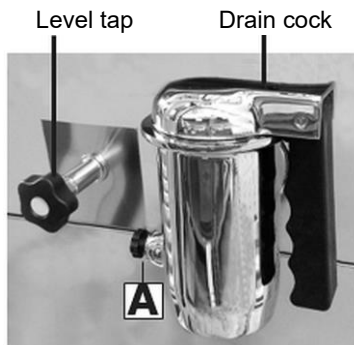
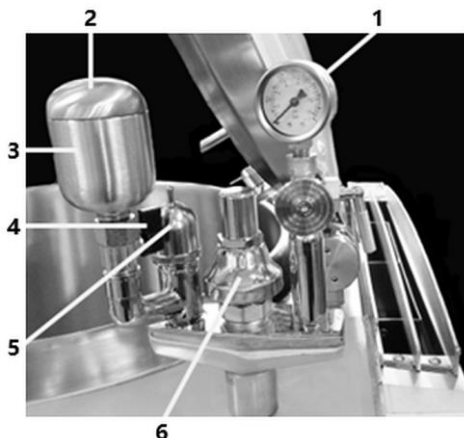

Fig. 13
Fig. 14
- Open the level tap (Fig. 13) on the front of the cooking vessel.
- Remove the funnel cap (2, Fig. 14) from the filling funnel (3) of the valve body at the top of the cooking vessel.
- Open the water inlet tap (4) on the filling funnel (3).
- Now fill the cavity with softened water up to the maximum fill level, which is indicated by the water flowing out of the level tap (Fig. 13).
4. Close the water inlet tap (4, Fig. 14) on the filling funnel (3) and replace the cap (2).
10. Drain all the water from the cooking kettle into the provided container via the drain cock (Fig. 13).
1. Before switching on the boiling kettle, ensure that there is no pressure in the cooking chamber by opening the steam release valve (5, Fig. 14), which is located on the valve body at the top of the appliance.
2. Before each switch-on and before each cooking process, check the water level in the cavity using the corresponding level tap (Fig. 13).
3. Open the drain cock (Fig. 13) on the front of the appliance.
4. Drain all the water from the cooking container into the provided container via the drain cock (Fig. 13).